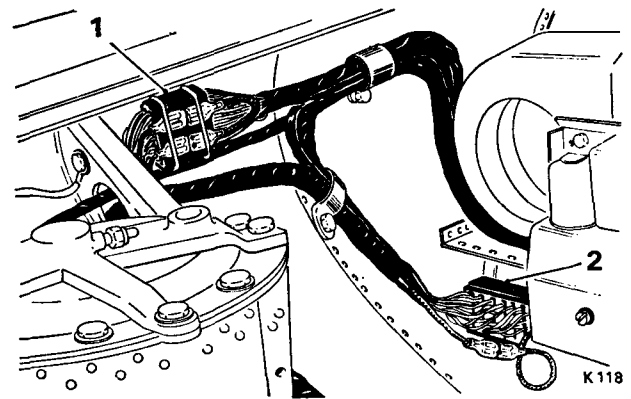

FIG. H5 ENGINE LOOM PLUG AND SOCKET
16. Disconnect the engine electrical system loom at the nine-way socket and plug situated on the right-hand valance plate (see Fig. H5).